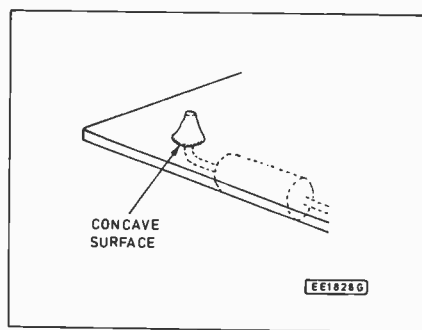

Fig. 5.28. Correct soldering.
6. Examine the joint. The solder should be smooth and bright without rough patches or spikes. Fig. 5.28 shows the